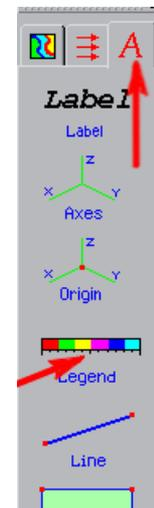

Fig.72. The *Annotation*
- Place a legend in the drawing, using the *Legend* tool from the toolbar under the *Annotation* tab (signed with a letter – see Fig. 72). Click on the *Legend* button. The window displays and you can define additional properties of the legend (font size, markers, digit format, etc.).